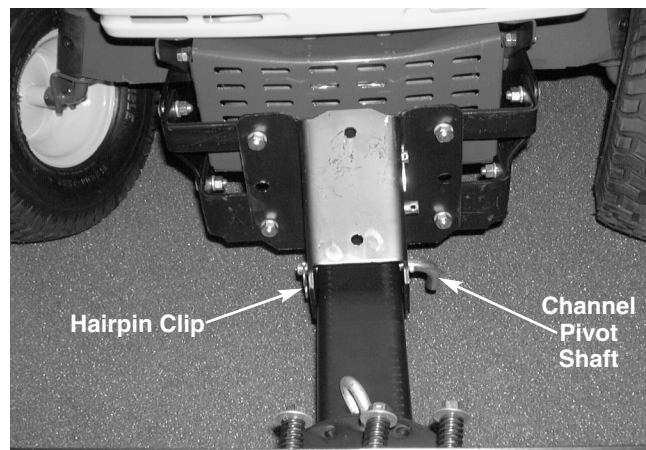

FIGURE 7.
14. Slide flat washer onto channel pivot shaft and insert the shaft through the holes in the pivot support bracket and push bar channel. See figure 7.
15. Secure the channel pivot shaft with a hairpin clip. See figure 7.